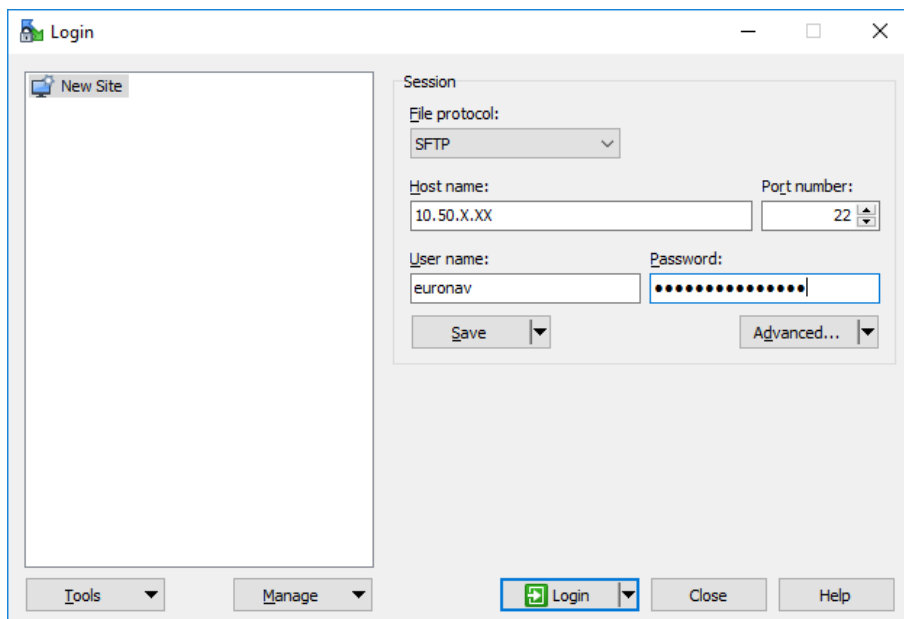

Figure 16: WinSCP configuration
1. A connection to the *A10-RTK* can now be established with the free software WinSCP. Set the File protocol to SFTP. For the Host name, use the IP address 10.50.X.XX (IP address - Alberding GmbH) from the table (see above). User name and Password are provided by Alberding GmbH (see Fig. 16).